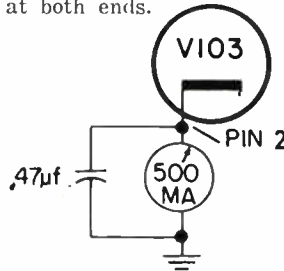

Fig. 3
STEP 1: Short jumper from TP501 to ground. Adjust horizontal hold control R130 to the center of its range. See Fig. 3.